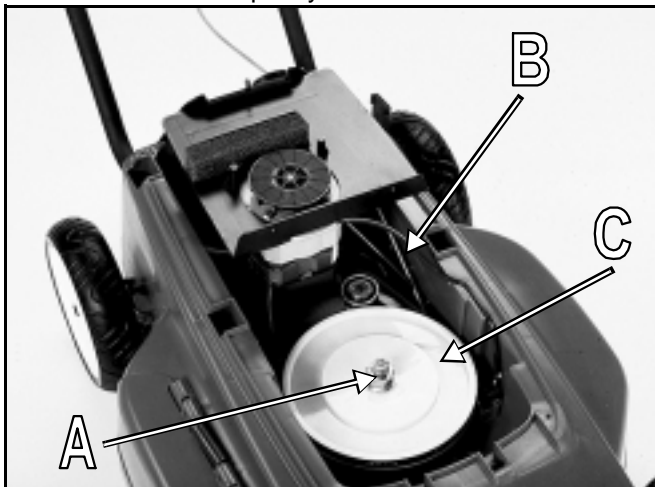

Figure 52
3. Remove the nut on the large pulley and remove the pulley (Figure 52).